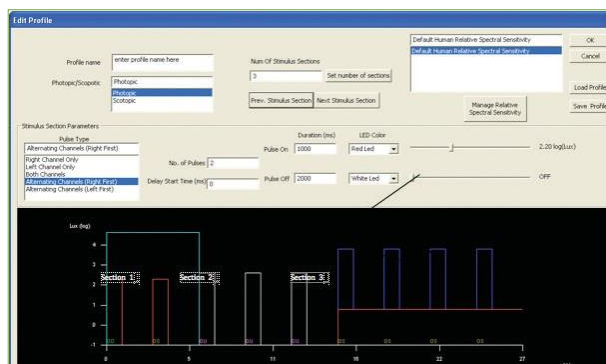

Figure 13 – The Edit Profile GUI, Section 1.
The Edit Stimulus Profile button allows the user to define and to save a new light stimulus profile or to load a predefined profile. A profile is defined by one or more light steps is flashed to the eye and then turned off (i.e. a pulse). Light pulses can be repeated a number of times, thereby forming a section. Pulses and/or sections can be concatenated in order to define the final light stimulus profile. The Edit Stimulus Profile GUI (Figure 13) is used to define all the elements of the light stimulus profile.
Lux or radiometric levels can be set using the horizontal slide button (see arrows) and they can be incremented by 0.1 log units by clicking on the bar. When a Lux or W/m2 value cannot be achieved by the system, the number (see the dashed arrow, Figure 13) is displayed in red and a lower intensity must be selected instead.
**For example, Section 1** in Figure 13 is defined by two pulses of red light of 2.20 logLux flashed for 1000 msec and then turned OFF for another 2000 msec (total duration 3 seconds). The eyes are stimulated alternatively with the right eye (OD) stimulated first.
All the elements of the pulse are definable using the corresponding input window in the Edit Stimulus Profile GUI (Figures 13, 14 and 15). A new Section can be added or deleted by just entering the proper number in the Num. Of Stimulus Section box. Sections can be browsed and edited using the Prev. Stimulus Section and Next Stimulus Section button. The final profile can be named, saved (it will have a .SPF extension) and retrieved later for execution using the buttons Load Profile and Save Profile. Once the profile is defined (or loaded if previously defined) press OK – that light stimulus profile is now ready to be executed. Note that the Stimulus Profile can be changed and defined also by editing the profile file using Microsoft Excel.